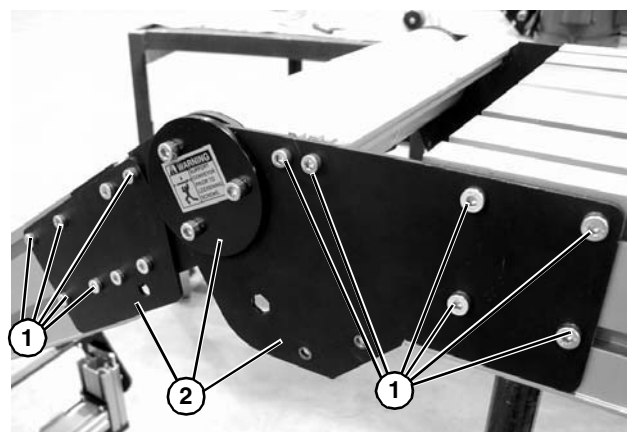

Figure 75
3. On one side of knuckle, remove screws (**Figure 75, item 1**) and knuckle plate assembly (**Figure 75, item 1**).